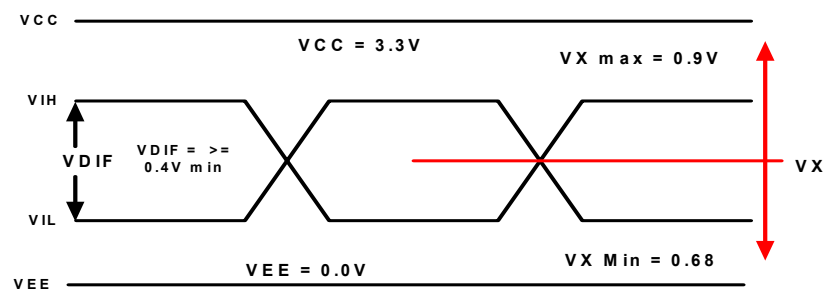

Figure 2. HSTL Differential Input Waveform Definitions
- $V_X(AC)$ is the crosspoint of the differential HSTL input signal. Normal AC operation is obtained when the crosspoint is within the $V_X(AC)$ range and the input swing lies within the $V_{DIF}(AC)$ specification. Violation of $V_X(AC)$ or $V_{DIF}(AC)$ impacts the device propagation delay, device and part-to-part skew. Refer to Fig. 2.